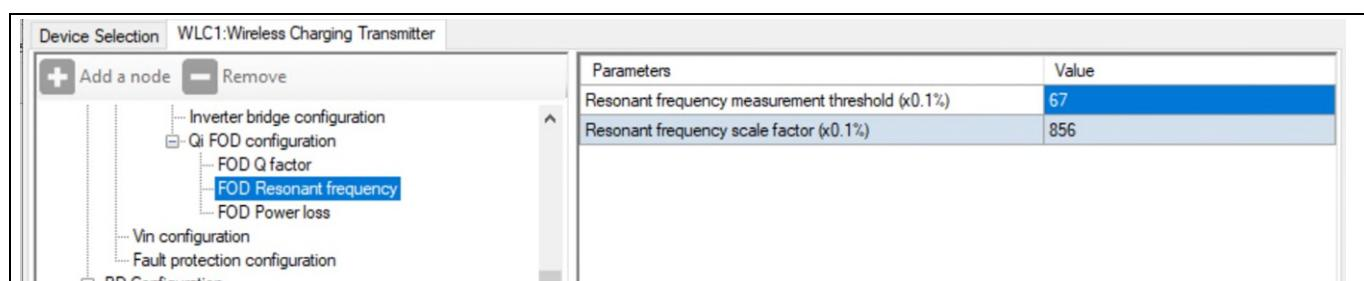

Figure 20 View of Q factor settings configuration tool
10. Update the Wireless Charging Configuration Utility parameters in the respective field as shown in Figure 20.